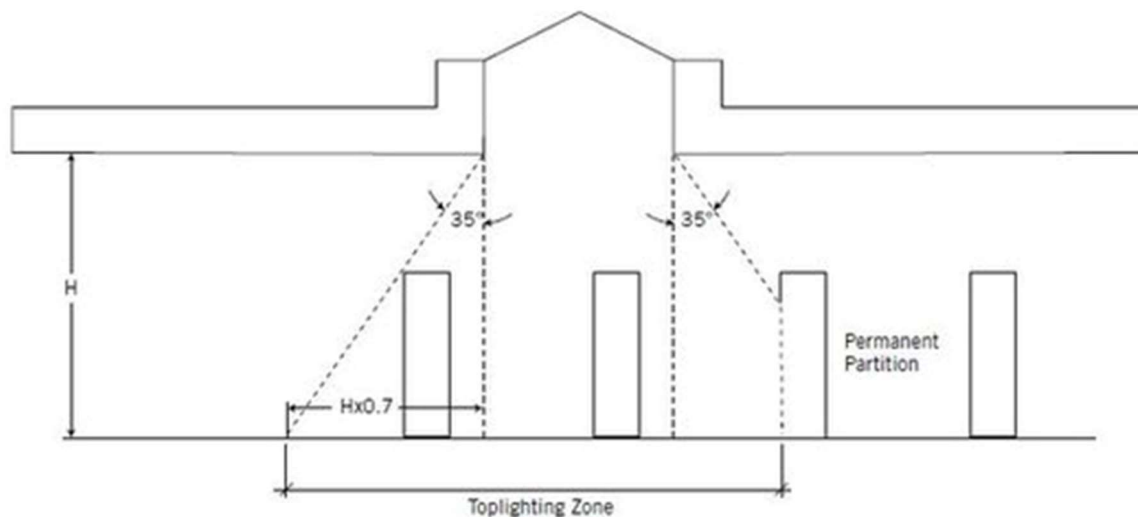

Figure 2
- The top lighting zone under a skylight is the outline of the opening beneath the skylight, plus in each direction the lesser of (see Figure 2).